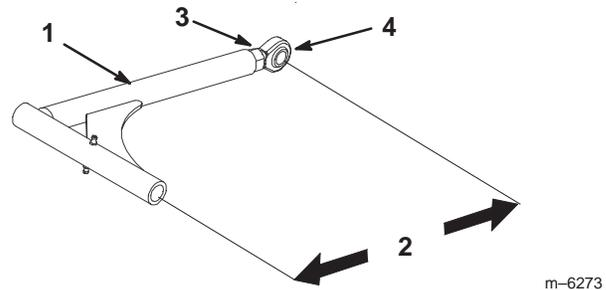

Figure 71
11. If the fixed idler contacts the end of the adjustment slot and more belt tension is required, a small change to lengthen the push arms can be made (Fig. 71).
12. To adjust push arms, loosen jam nut and rotate ball joint counterclockwise, one turn at a time. Adjust each side the same amount (Fig. 71).